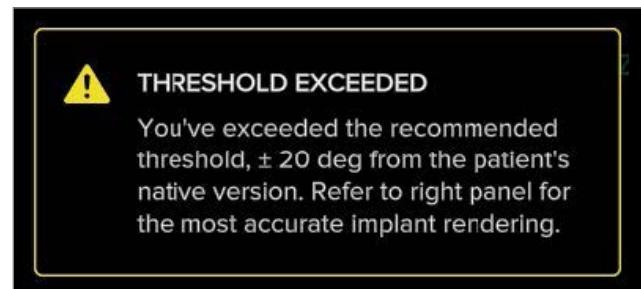

Figure 58a. Angulation control warning
- Should the desired torsion exceed 20° from the patient’s native torsion a warning will appear as shown in Figure 58a where the 2D view no longer provides the most accurate rendering.